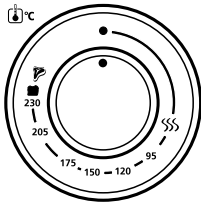

Figure 1
1. **Temperature Selector Knob** – Adjust the thermostat dial to the desired temperature. (See Figure 1)